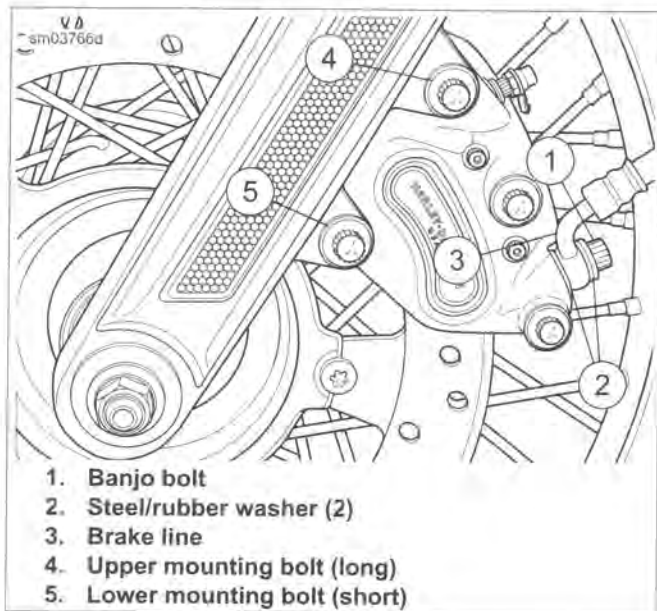

Figure 2-62. Front Caliper
1. See Figure 2-62. Attach caliper to fork leg.
- c. Loosely install upper mounting bolt (4) (metric) into top hole on fork leg.
- d. Install lower mounting bolt (5) (metric) into bottom hole on fork leg. Tighten bottom mounting bolt to 28-38 ft-lbs (38.0-51.5 Nm).